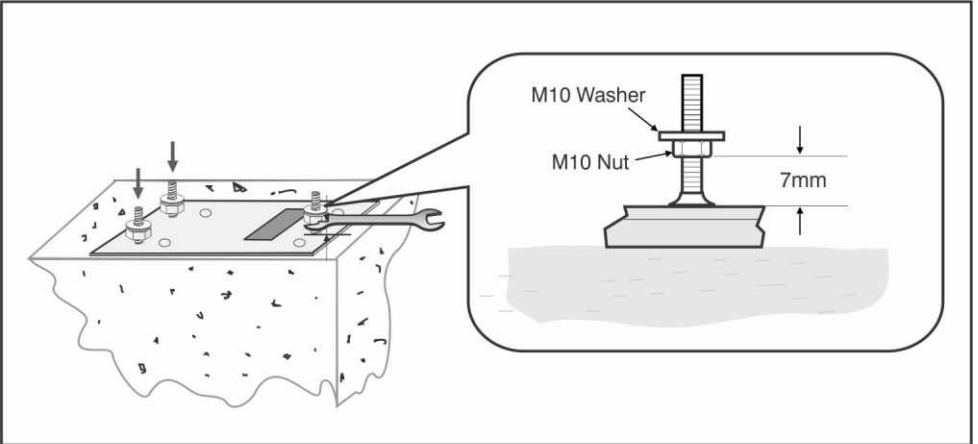

Figure 12 Prepare to Mount Operator
- 6. Fit M10 nuts and washers to the base as shown in Figure 12. Take care to adjust the nuts to be 7mm clear from the base to allow for later adjustment. NB: Remember to fit washers.